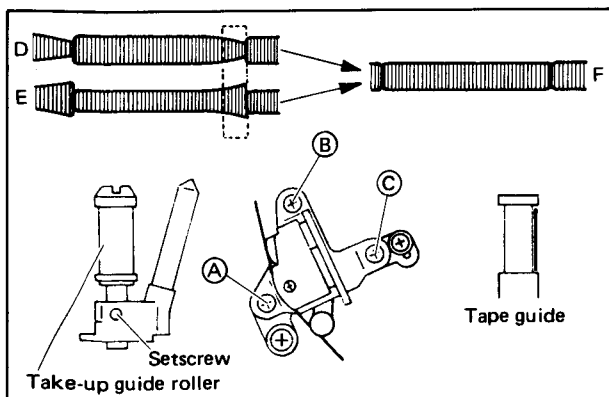

Fig. 4-48 Drum output adjustment
- In the same manner as for the drum input, turn the take-up guide roller to adjust the falling portion (drum output portion) of the FM waveform. Incorrect examples are shown by D and E in Fig. 4-48, while F indicates the correct adjustment.
- If the tape separates from the tape guide or wrinkling occurs at the tape guide, adjust by turning screw (C) of the audio/control head as shown in Fig. 4-48.